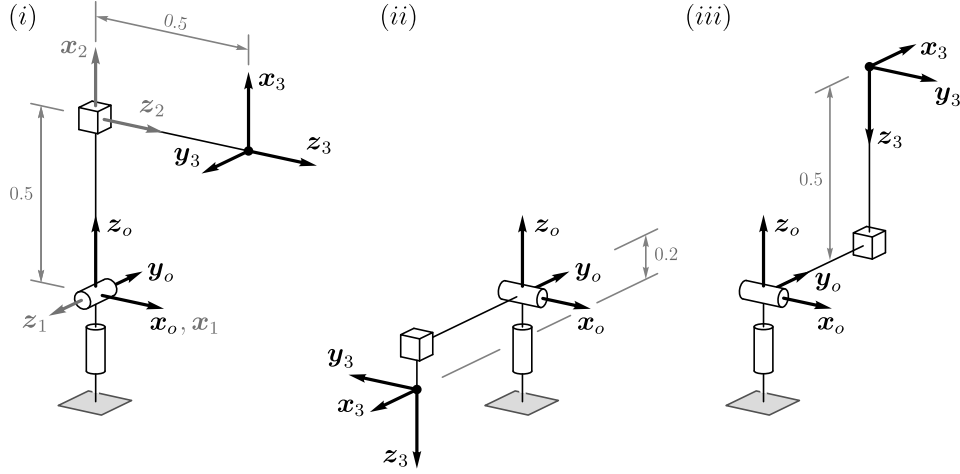

Figure 2: Spherical Manipulator's configurations.
6. Consider the Spherical manipulator's configurations illustrated in Figure 2. For each configuration, choose the offset parameters $\sigma = (\sigma_1, \sigma_2, \sigma_3)^\top$, in the D-H Table 1, in such a way that a null joint configuration, $\mathbf{q}' = (\vartheta'_1, \vartheta'_2, d'_3)^\top \equiv \mathbf{0}$, corresponds to the illustration. Note that $\mathbf{q} = \mathbf{q}' + \sigma$.